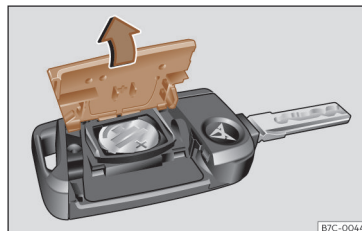

Fig. 67 Vehicle key: opening the battery compartment cover.
- Remove the cover from the back of the vehicle key»» Fig. 67 in the direction of the arrow »» ❶.
- Fit the cover as shown»» Fig. 67 , pressing it onto the vehicle key casing in the opposite direction to that shown by the arrow until it clicks into place.